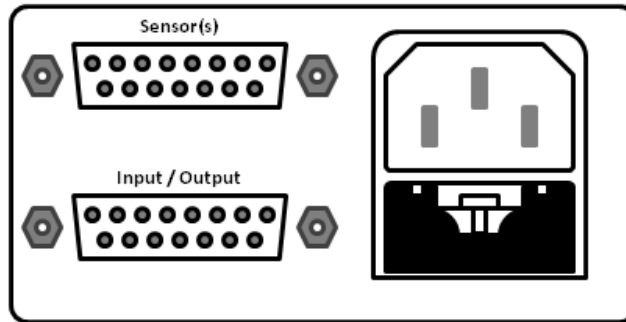

Figure 2. Terranova® 926A back view
The Terranova® 926A has a female 15-pin D-sub connection located on the back of the control unit labeled SENSOR(S) to connect the pressure gauge cable (**See Figure 2**). A dual cable is required to simultaneously connect both pressure gauges. User will require the Duniway gauge cable **275-CBL-2-10** to connect the Granville-Phillips 275 Convectron® gauges and equivalent pressure gauges to the control unit. Similarly, the user will require the Duniway gauge cable **CEP-CBL-2-10** to connect the MKS / HPS Series 317 gauges or equivalent pressure gauges to the control unit.